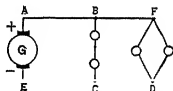

FIG. 67. Series and parallel groups of lamps supplied by generator.
**Prob. 7-3.** In Fig. 67, each lamp takes 0.25 ampere. How much current flows through *AB*, *BF*, *EC* and *CD*?
**Prob. 13-3.** In Fig. 67 each lamp takes 1.5 ampere.